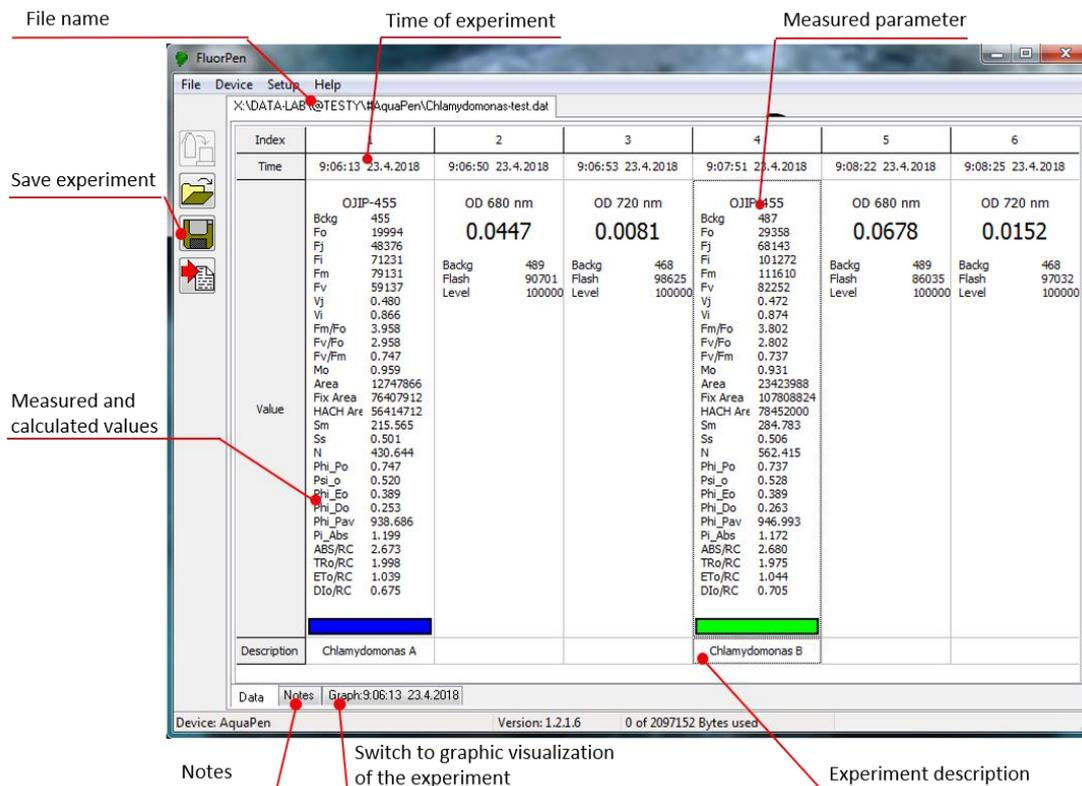

Fig. 28 Data visualization.
- Once the download is complete the Data can be visualized in a table shown below (Fig. 28).